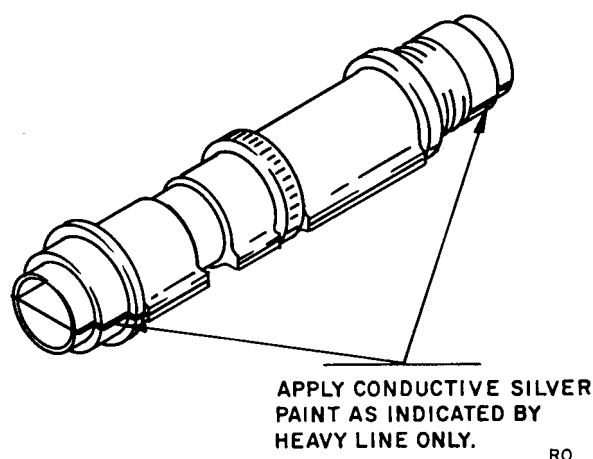

Figure 11 *Application of Silver Paint to Choke Joint of Center Section*
13. Refer to Figure 11. Apply conductive silver to seams of choke joint on ends of center section.